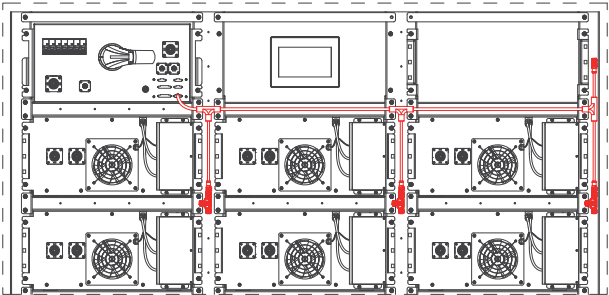

Figure 2.6
(2) Connect the fan power supply lead cable from the BMU-FAN24V interface of the main control box and fix it with a cable tie. (Figure 2.6).